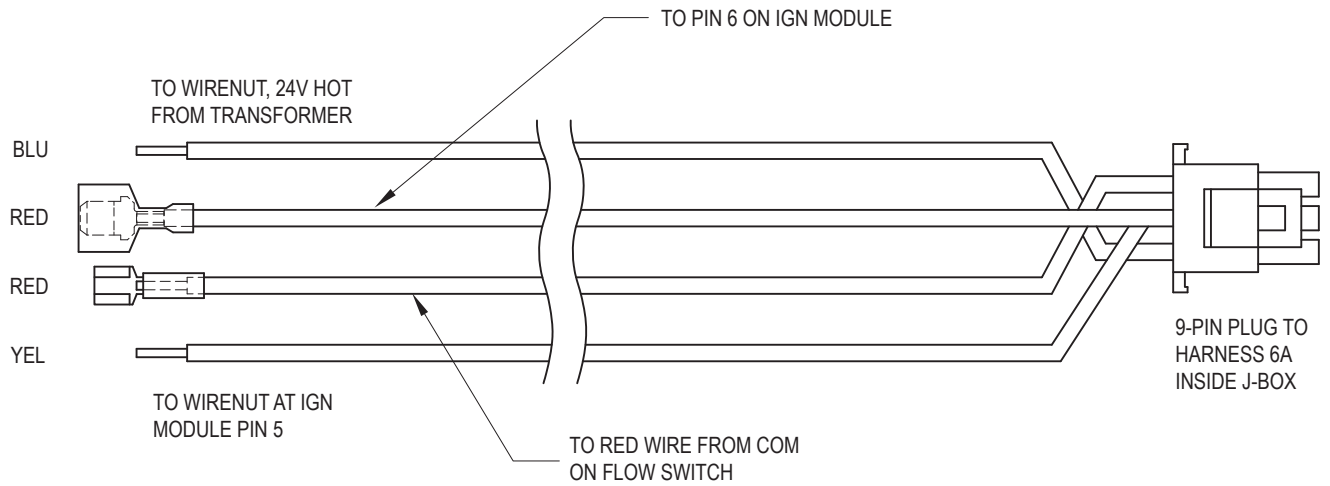
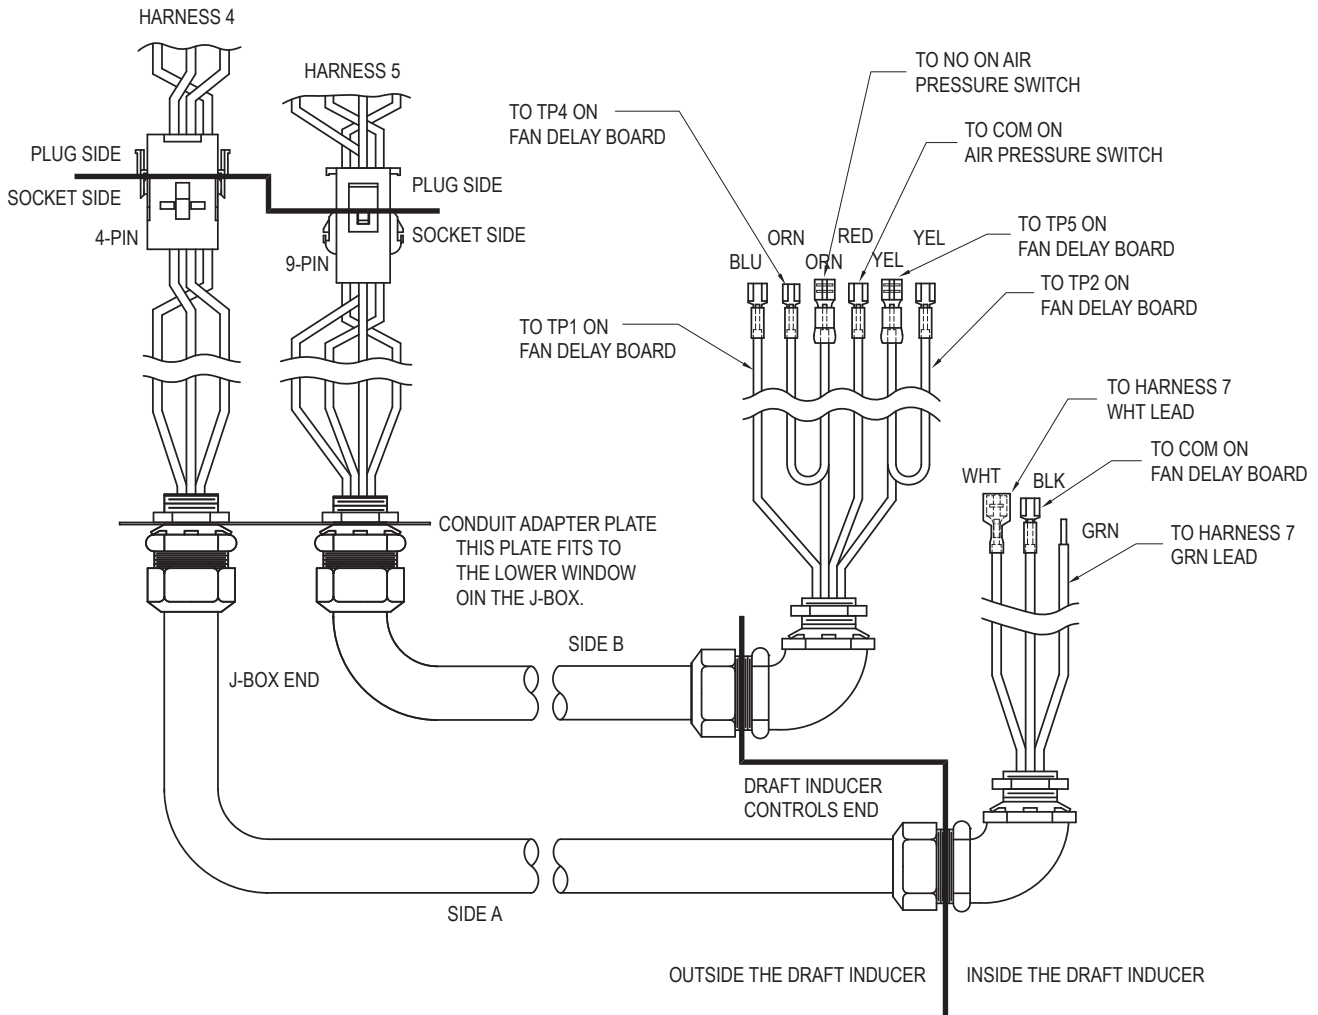

Figure 11. Harness 5, Models 0962-1826
Figure 12. Harness 6, Models 0962-1826
9. Connect the loose wires on HARNESS 5 per **Figure 11**. The 9-pin plug remains inside the J-box.
12. Connect the loose end of HARNESS 6A (3 wires, 120V) to the power vent (PV) control housing, using the connector provided.
13. Connect the wires of HARNESS 6A to the connections indicated on **Figure 12**.
15. Connect the wires of HARNESS 6B to the connections indicated on **Figure 12**.
17. Connect the wires from HARNESS 7 to the power vent controls as indicated on **Figure 12**.
19. Connect the wires from HARNESS 7 to the power connections on the fan motor, per **Figure 12**.